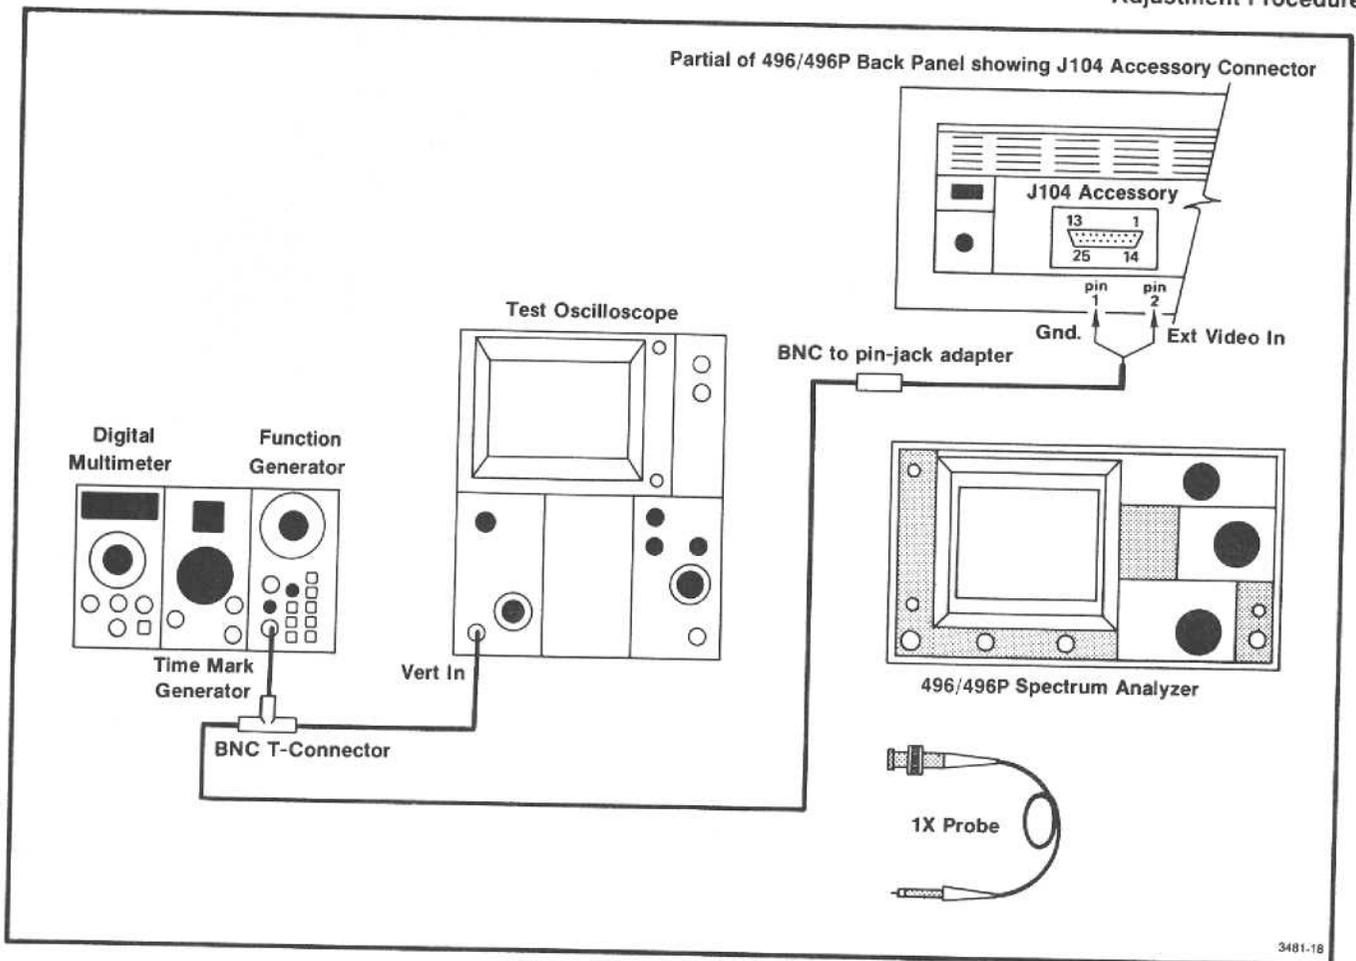

Fig. 3-25. Test equipment setup for calibrating the Deflection Amplifier.
a. Test equipment setup is shown in Fig. 3-25. Set the TIME/DIV to 5 ms, Vertical Display to 2 dB/DIV, and switch Digital Storage off. Position the trace on the bottom graticule line.
b. Apply a 5 kHz, 0 to +4 V signal, from the sine-wave generator, through a bnc-to-pin-jack adapter, to the Ext Video input (pin 2) and Video Select (pin 1) of the ACCESSORIES jack (see Fig. 3-25).